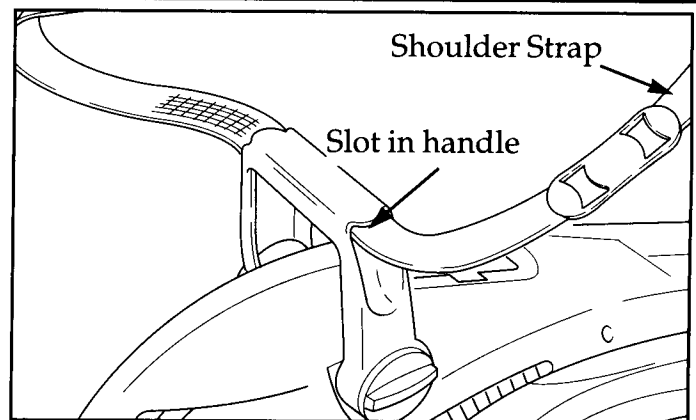

Figure 7
1. With the unit on the ground, thread the shoulder strap through the slot in the handle. Figure 7.